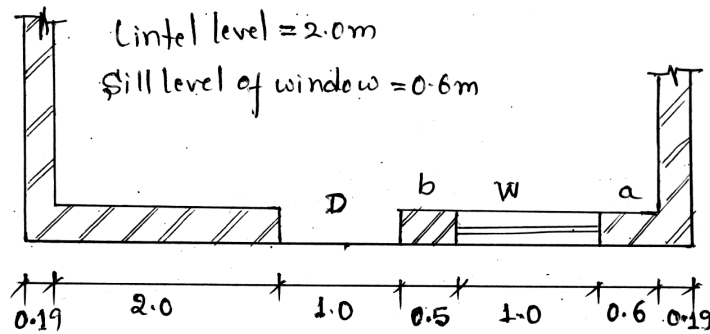

Fig Q. 9 (b) (All Dim in metres)
- b. External wall of a single storeyed house is 20 cm. thick and has door and window openings as shown in Fig Q.9 (b). Plinth level is 1.2 m above the top of the foundation footing and floor to ceiling height is 2.80 m. One way RCC slab of 3 m clear span bears on the wall and is 10 cm thick. Determine the maximum stress in the wall and calculate the strength of bricks and grade of mortar required for the wall. There is 200 m thick parapet wall of 0.8 m height above the roof slab wall and parapets are plastered on both sides. 14